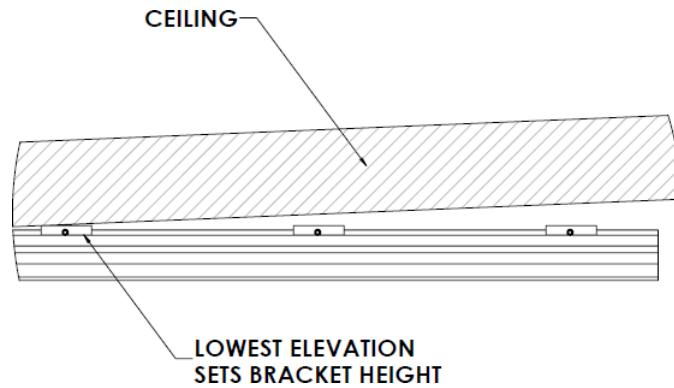

Figure 83: ***Lowest Elevation Point Where the Ceiling Brackets Will Be Installed***
- For super track systems, project the line for the fixed gate track bracket height 4 1/4" below the gate side and non-gate-side parallel track brackets (see Figure 83).
- For TrackPlus systems, project the line for the fixed gate track bracket height 7 3/16" below the gate side and non-gate-side parallel track brackets (see Figure 83).